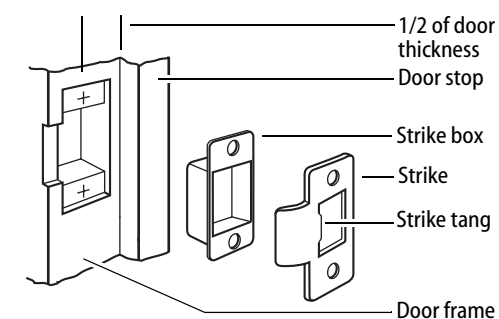

Figure 4 Installing the strike
- 1 If needed, use the template to find centerlines and drill points to mortise the door jamb and fit the strike box and strike plate. See Figure 4.